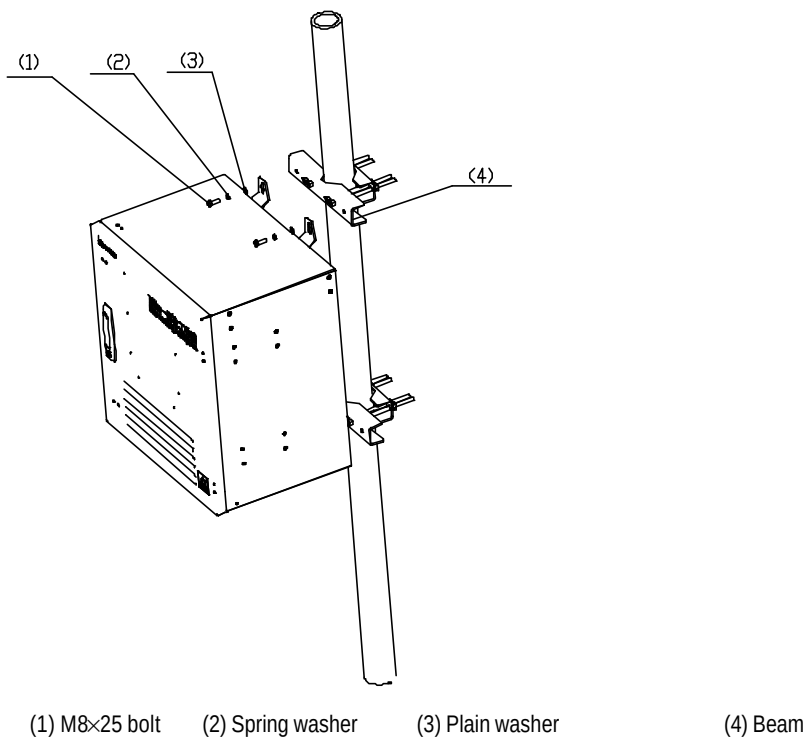

Figure A-6 Fixing IAFB
- 2) Lean the box of IAFB on the beam and let M8×25 bolt go through the hanger of IAFB. Then fasten the IAFB to the beam. See Figure A-6.
- 2) Fix the IAFB to the fastener with M8×25 bolt. Its installation procedure is similar to that on metal mast. See Figure A-6.